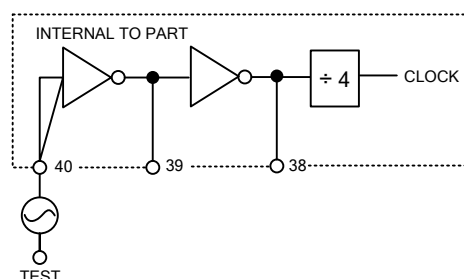

FIGURE 6A
1. Fig.6A. An external oscillator connected to pin 40.